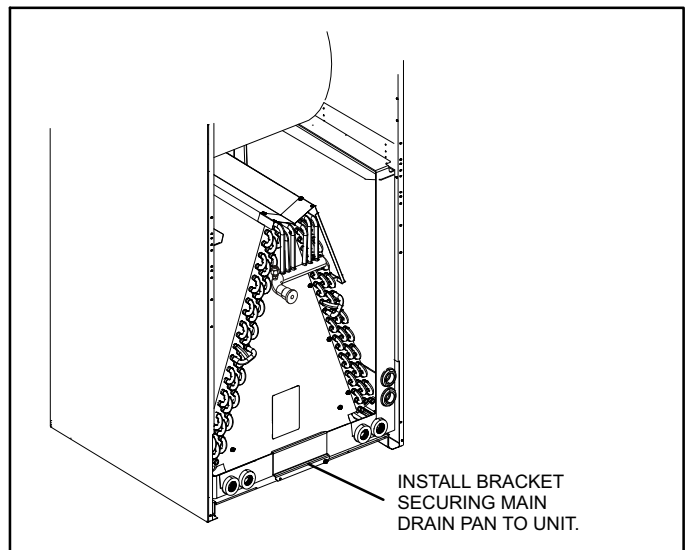

Figure 27. Install Main Drain Pan Mounting Bracket (-018 through -036)
- Re-install modified coil/drain pan assembly in air handler in the same orientation as before (figures 27 and 28).